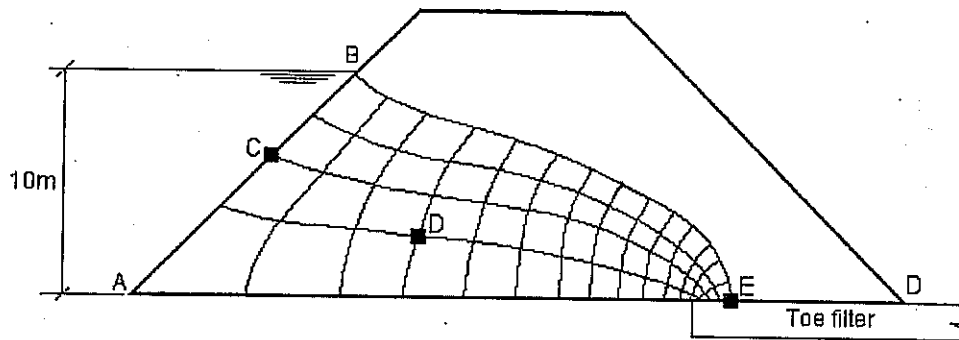

Figure Q3
3. Figure Q3 shows a flow net, which models seepage through an embankment dam. The elevations of points B, C, D and E, measured from datum AD are 10m, 6.25m, 2.75m and 0m, respectively.